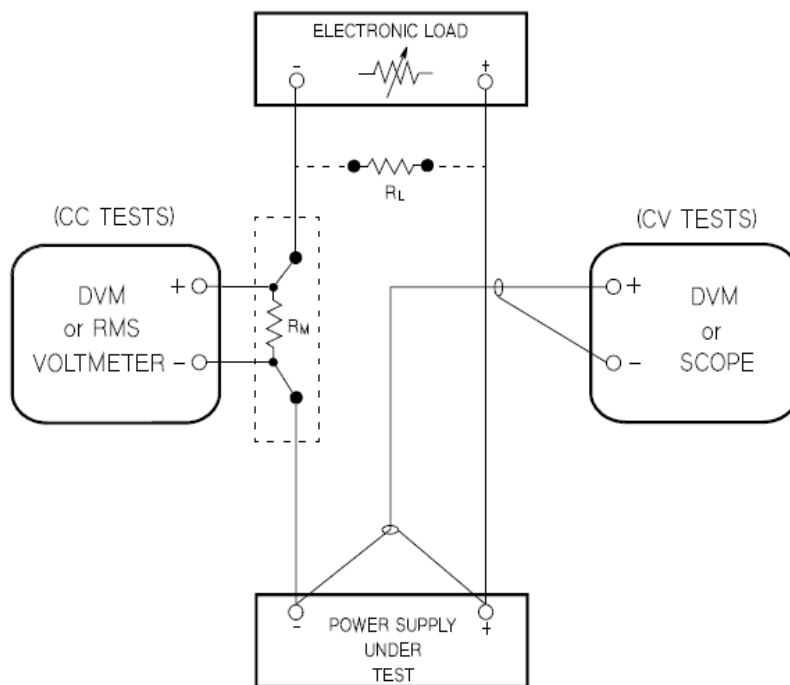

Figure 3-1 Performance verification test setup
To eliminate output current measurement error caused by the voltage drops in the leads and connections, connect the current monitoring resistor between the (-) output terminal and the load as a four-terminal device. Connect the current-monitoring leads inside the load-lead connections directly at the monitoring points on the resistor element (see R_M in Figure 3-1).
- 1 Turn off the power supply and connect a digital voltmeter between the (+) and (-) terminals of the output to be tested as shown in Figure 3-1.
- 4 Operate the electronic load in open mode (input off). Record the output voltage reading on the digital voltmeter immediately. The difference between the digital voltmeter readings in steps (3) and (4) is the CV load regulation. The difference of the readings during the immediate change should be within the limit specified below for each output tested.
- 6 Adjust the autotransformer to high line voltage (127 Vac for nominal 115 Vac, 110 Vac for nominal 100 Vac, or 253 Vac for nominal 230 Vac). Record the voltage reading on the digital voltmeter immediately. The difference between the digital voltmeter readings in steps (5) and (6) is the CV line regulation. The difference of the readings during the immediate change should be within the limit specified below for each output tested.